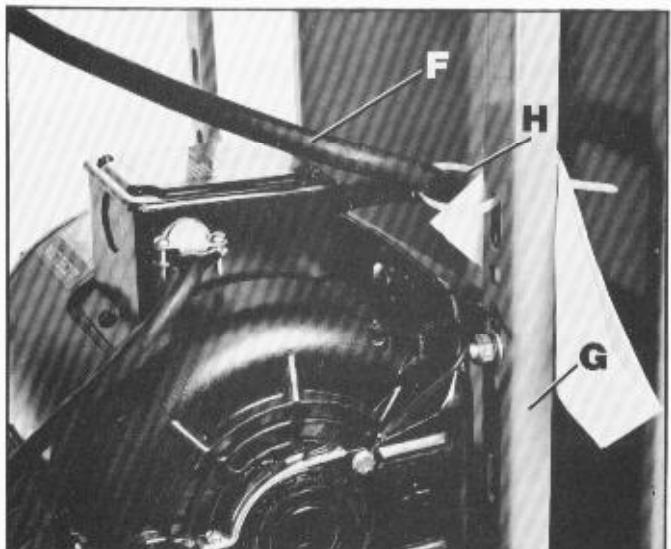
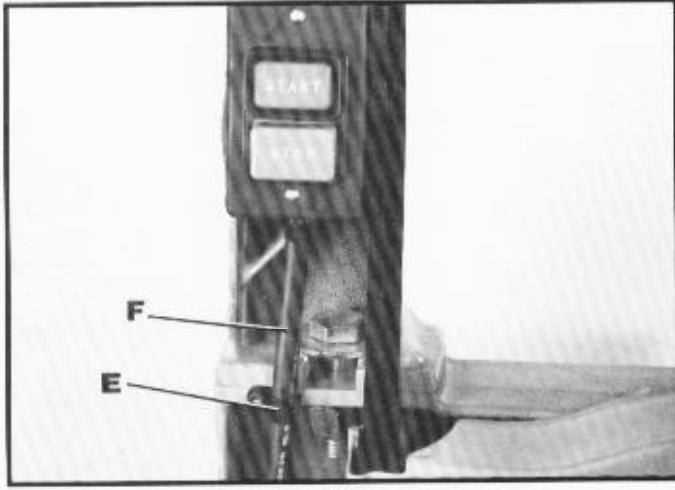

Fig. 7
Fig. 10
2. CAUTION: THE ON/OFF SWITCH-TO-MOTOR CORD (F) FIG. 7, IS TIED TO VERTICAL MOUNTING POST (G) OPPOSITE THE MOTOR PULLEY. THIS CABLE TIE (H) PREVENTS THE SWITCH-TO-MOTOR CORD (F), FROM CONTACTING THE BELT OR MOTOR PULLEY DURING OPERATION. DO NOT TIGHTEN CABLE TIE (H) AT THIS TIME. IMPORTANT: DO NOT REMOVE THIS CABLE TIE UNLESS YOU ARE USING THE ACCESSORY #28-984 HEIGHT ATTACHMENT WITH THE BAND SAW.
7. Insert switch cord (F) Fig. 10, into clamp (E) which was removed in STEP 6, and fasten switch cord (F) to band saw as shown. **IMPORTANT: CHECK AND MAKE CERTAIN THE ON/OFF SWITCH-TO-MOTOR CORD (F) FIG. 7, IS NOT CONTACTING MOTOR PULLEY OR BELT. ADJUST CORD (F) FIG. 7, IF NECESSARY, THEN TIGHTEN CABLE TIE (H).**